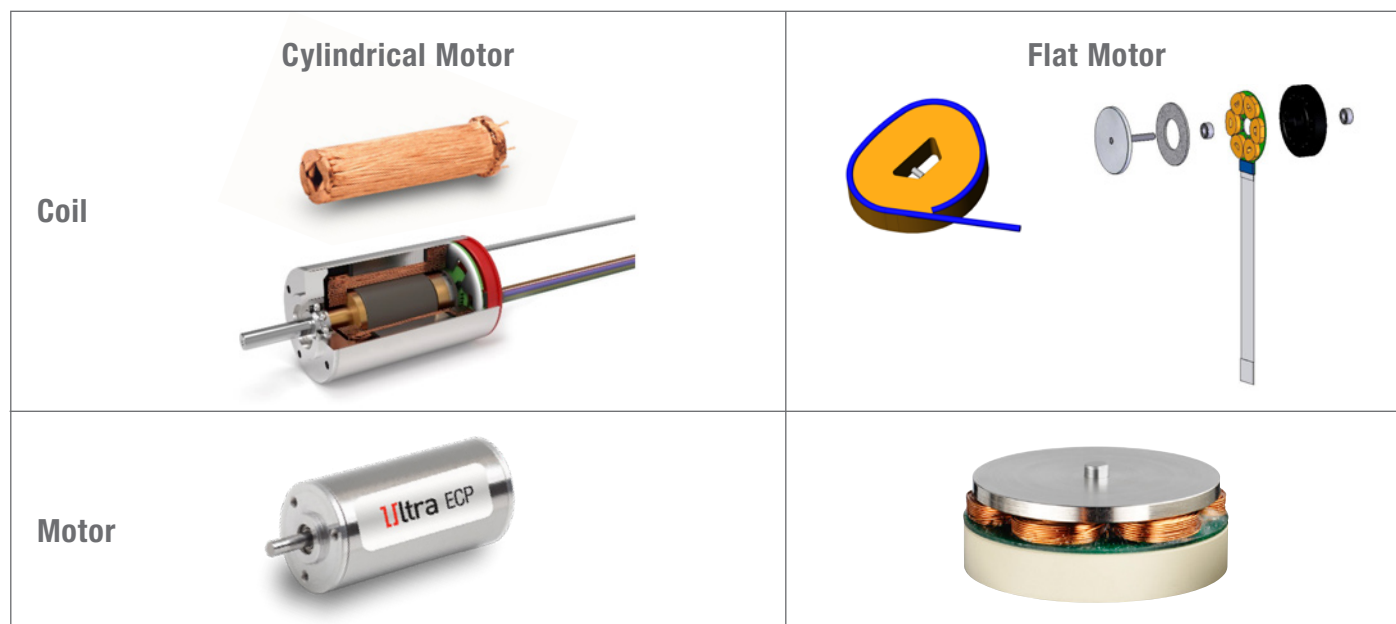

Figure 6 - Interior View of Cylinder Motor and Flat Motor
1. Cylindrical motors will typically have a longer length compared to their diameter. They are usually used in robotic pipettes. (Figure 6, left column)
2. Flat motors (or “pancake” motors), usually have a larger diameter compared to length. Disc magnets and flat coils are used for this motor design. They are typically used in robotic arms. (Figure 6, right column)